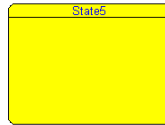

Figure 56: Composite state with one region
- 3 Go to the statechart diagram and click on it. A state with one region is created. See *Figure 56*, page 73.